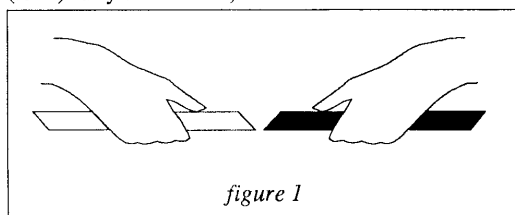

figure 1
3. Assemble tubing straightener by interlocking alternate black and yellow tubes (Fig. 1). Adjust tubing straightener length by equally forcing one black tube inside one yellow tube. Twist the tubes in opposite directions to lock into place. (Maximum tubing straightener height must not exceed 33 inches (.8 m) fully assembled.)